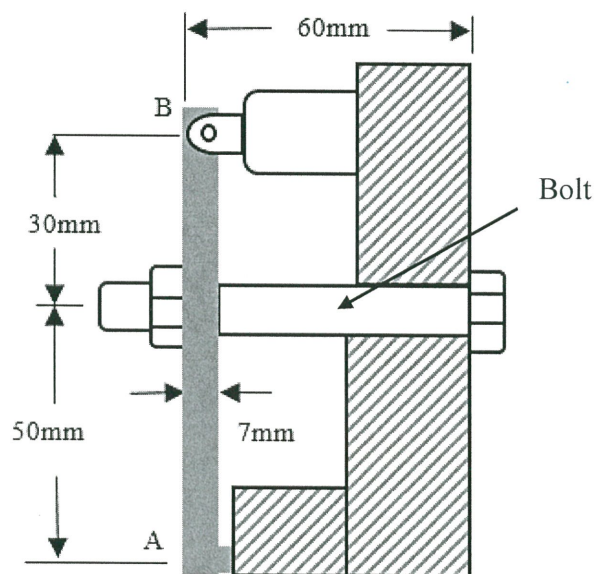

Figure Q6
- (b) The bolt in **Figure Q6** has a diameter of 10 mm and the link AB has a rectangular cross section that is 12 mm wide by 7 mm thick. The bolt is tightened so that it has a tension of 500N. Both members are made of steel with elastic modulus of 200 GPa. By neglecting the hole in the link and with the help of free body diagram, determine the strain energy.